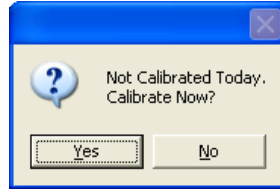
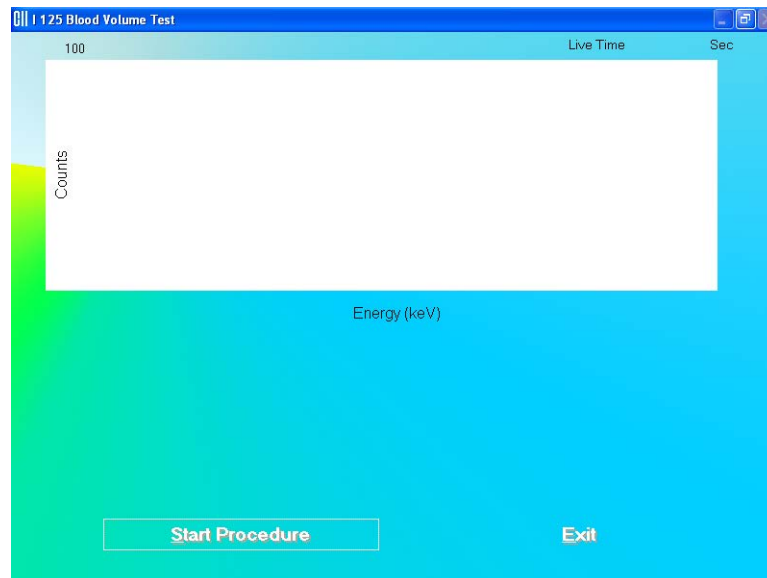

Figure 10-36
Figure 10-37
2. To begin the measurements, click the  button or press *Alt+C*. The screen appears as shown in Figure 10-37.
Note: If calibration has not been performed, you will be prompted with the screen as shown in Figure 10-36. If you calibrate now, the screen will return after calibration to the screen shown in Figure 10-37.
To begin counting, verify that there are no radioactive sources nearby and click the **OK** button. To abort the measurement, click the **Cancel** button and the screen will return to that shown in Figure 10-37. To exit to the Main I 125 Blood Volume Test Screen, click the **Exit** button or press *Alt+E*. To begin the test again, click the **Start Procedure** button or press *Alt+S*.